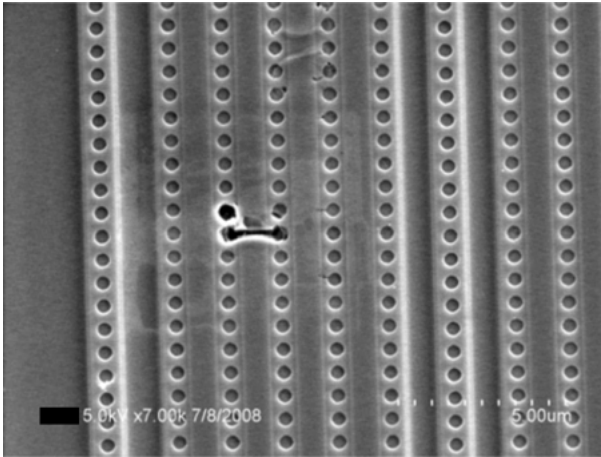

Figure 15.1: SEM image of an ESD-damaged sample after an HF strip. Image by EAG.
There is a special case for suspected ESD-damaged samples when there is more than one sample or the confidence in the issue being ESD damage at the active region is very high and that is a hydrofluoric acid (HF) strip. In this case, silicon die only, the oxide layers are etched away with HF and this carries all the metal layers away once the oxides are etched. Often, this can leave a dirty surface which requires some cleaning by ultrasonic IPA rinsing. The part can then go straight into inspection by SEM after the HF and clean-up is done. This is why it is often advisable to polish several layers off the die before doing the HF dip as this reduces the materials etched and the resultant residues. This method is quicker and therefore less costly than a full p-lap, but it only allows inspection at the silicon and does not allow inspection of any of the metal layers. An example of an HF stripped exposing ESD damage is shown in Figure 15.1.